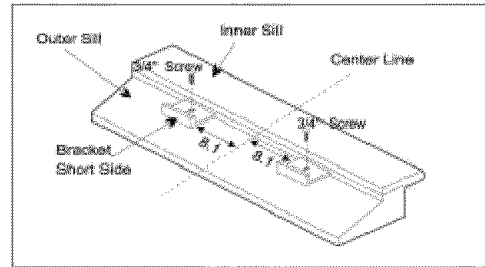

Fig. 5
5. Install the L brackets on the outer sill with the short side of the bracket against the back of the inner sill. Install one L bracket 8.1" to each side of center line. See Fig. 5.